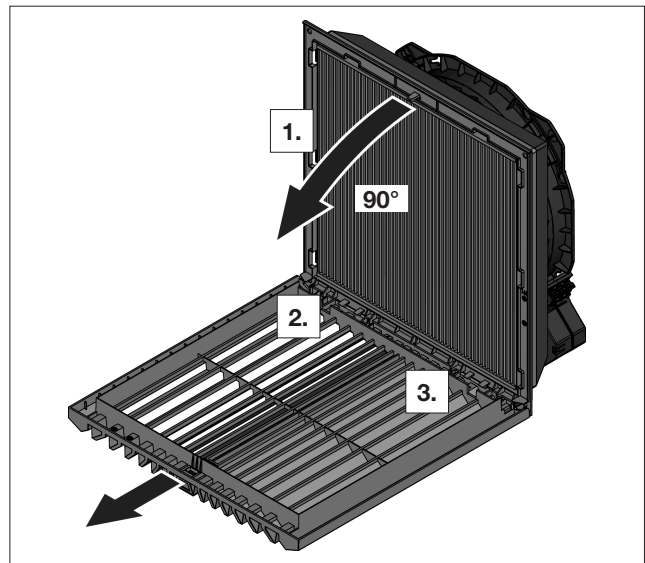

Fig. 2: Removing and mounting the louvred grille
- To drill the lower holes, it is necessary to remove the louvred grille as shown in fig. 2. To do this, first loosen one hinge side and then the other.